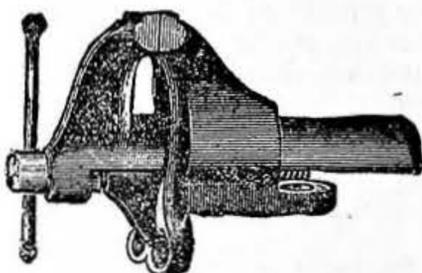
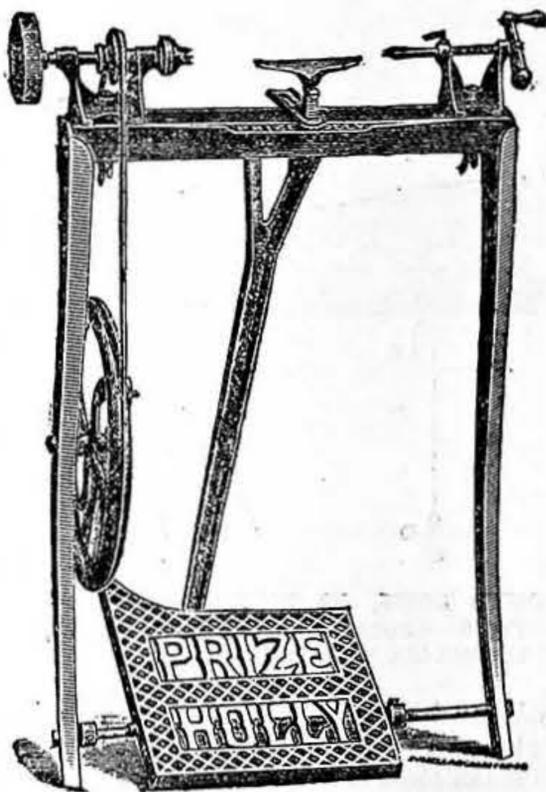

Fig. 1.—Patent Amateur Parallel Vice.
Fig. 2.—Prize Holly Turning Lathe.
BORDERS. Fig. 1.—Cut Border: Follage. Fig. 2.—Cut Border: Drapery. Fig. 3.—Small Wood Block for raising Border. Fig. 4.—Arrangement for raising Border. Fig. 5.—Border (A) with Pulley Blocks (B) and Dead Lines (C). Figs. 6, 7.—Borders representing Ceilings of different kinds.
In making a border, the most particular thing is to have a good batten of sufficient strength to keep the canvas straight and flat, especially sky borders. There should be no creases; the reason is obvious. Suppose we have a border, say, 15, 20, or 30 ft. long, and 3 ft. or more deep, you must stretch your canvas on a frame or some flat surface. After you have done this, make some good priming. What I mean is, let your size be strong, but not too much whiting, as borders, as a rule, get a deal of knocking about; if you had too much whiting they would crack and show bad places. When your priming is dry, it will be ready for painting, if a sky border; or for an interior ceiling or drapery, it would be ready for drawing in your subject. Should there be cutting-out to do, such as hanging branches and leaves of trees, or drapery (see Figs. 1 and 2), you would, after painting, take the border off the frame, lay it flat upon the stage or floor, and tack it to your batten; you may then hang it up, say, shoulder high, when you can cut, foil, or do anything you wish. After it is all complete, you may hoist it into its place, hanging it with two or more "dead lines" to beams, rafters, or any place of safety with "screw eyes" having a firm hold. Should the borders be required to rise and fall, small blocks would have to be used.
When representing interiors, be careful with the perspective; although a border may be hanging down, it may be made to appear flat by attending to your perspective (see Fig. 6, representing an old ceiling with oaken beams, and, may be, plaster between them). Fig. 7 might be that of an old baronial hall. Fig. 2 is a border drapery, such as a proscenium front; this may be of different colours, such as crimson, blue, green, or amber, with gold or silver bullion fringe and ornaments. I shall give a description of their painting and manipulation when I treat of drapery painting.
Fastening on Bristles.—A. H. (Nottingham).—First pick a pair of good bristles, that is, of equal substance, and as transparent as possible; from A to B (Fig. 1), on the end of each bristle, there is a dry, glutinous substance; this is the part that is in the hide when on the animal, and is of no use to us for our purpose; it is, therefore, cut off in a slanted direction, as shown by the line across it at A. Hold the two points together, and stroke them up and down, on a piece of sand-paper, somewhat in the same way as you would use a whitewash brush, holding them between the thumb and finger, and at the same time twisting them round—this will make
a nice round point to them; then, about half-way, just bend them against the thumb nail, so as to centre them both in the same place. You now have one end sharp and the other end, C (Fig. 1), bushy, of which you take equal portions between the thumb and finger of each hand, and split it down to B, as shown by A B (Fig. 2). The end of the thread is waxed, and the fine tapered extremity is placed in the crutch, as B (Fig. 3), both of which are held firmly between the thumb and finger of the left hand, the palm of the hand being towards you; then between the thumb and finger of the right hand the split part of the bristle, C, and the thread with it, is twisted towards you; and each time you want to take another sweep, hold the part C, *pro tem.*, between the little and third fingers, and when twisted just tight, twist A in the same direction, being careful not to break it. Then put A and C together, hold them between the thumb and finger of the right hand, and leave go with the left at B, and with it take hold of D, and twist that in the same way. This should give a result as shown in Fig. 4. Then at A, with a fine stabbing awl, a hole, or eye, is made in the thread, and the point of the bristle put through it, as shown at A (Fig. 5). This is drawn right through, and then smoothed from the point downwards, between the thumb and finger. This, it will be seen, is to secure the ends of the bristles, and prevent them from unplaiting. This method is called plaiting. There are other ways, but this is by far the best, for stitching.—W. G.
Bicycle Patent.—C. M. (*Liverpool*).—Referring to reply to F. S. (*Kidderminster*) on page 394 of WORK, the drawing shown does not in many points agree with the description, and the information given would fail to make anyone understand what is meant or what is to be gained by the arrangement. The inventor seems to aim at gearing up an ordinary front-driving bicycle by means of a gear similar to the Rob Roy tricycle, made long since by the Zephyr Cycle Company. With them the gear is simplicity itself; in the reply referred to it is anything but simple or clear, and Fig. 2 of the diagrams is not correctly drawn. I am unacquainted with either the address of the inventor or the number of the patent.—A. S. P.